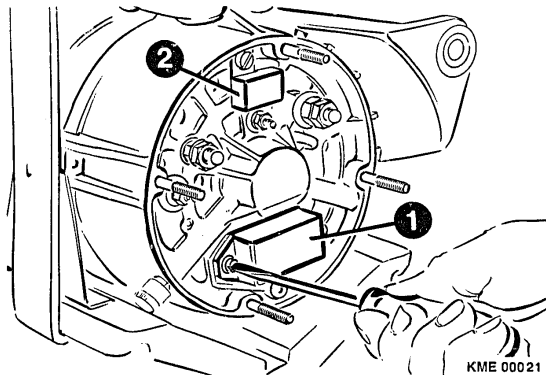

Figure 38 Capacitor Installation
5. Install the three (3) regulator mounting screws and torque to 1.3 to 1.7 Nm (11.5 to 15 in. lbs.). (Figure 38)
6. Install capacitor on collector end shield and tighten mounting screw to 4.3 to 5.7 Nm (38.0 to 50.4 in. lbs.). (Figure 38)